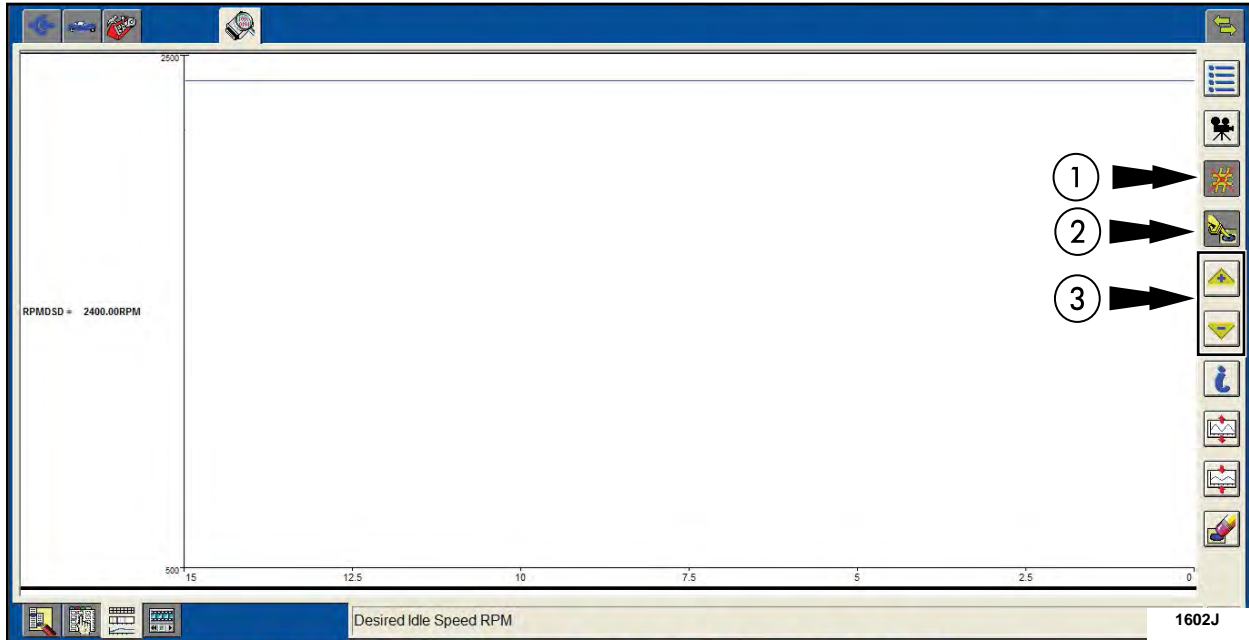

FIGURE 3
2. Start the engine and then select the control function. Use the control function buttons to increase engine RPM between 2,400 to 2,500 RPM for a minimum of 30 minutes. See Figure 3.